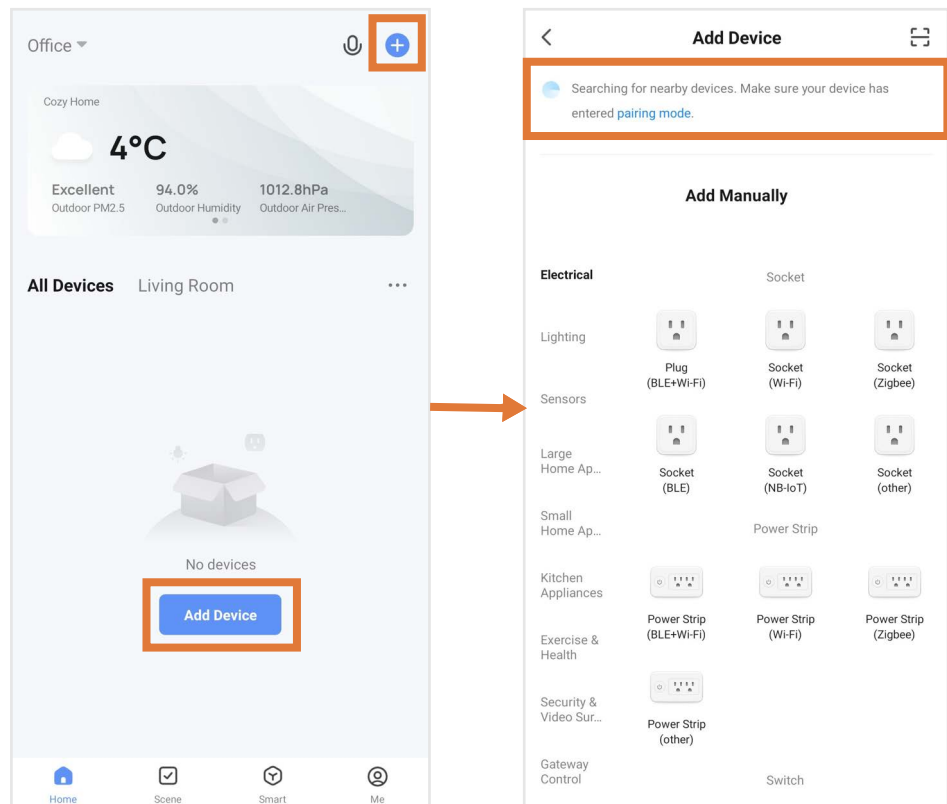

Figure 11 | Adding device on Smart Life app
3. The app should start scanning, as shown by the icon at the top of the screen (see **Figure 11**). If this icon and text does not show, press in the top right corner.